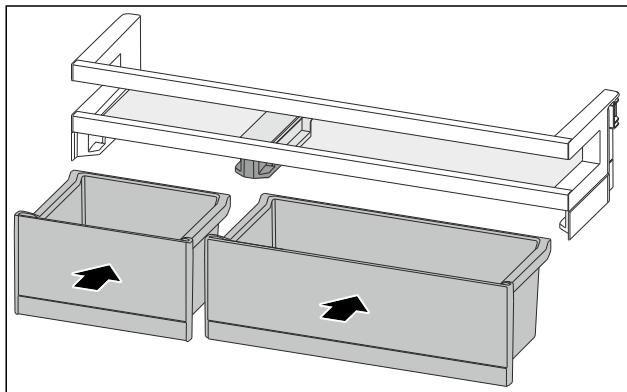

Fig. 116
- Insert the VarioBoxes in reverse order. (see Fig. 116)